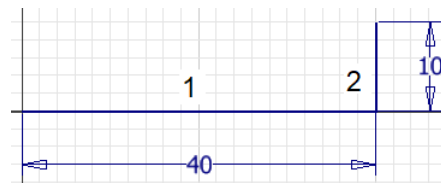

Figure 2-99(b) Dimensioning the sketch
5. Draw lines 3, 4, 5, 6, and 7, as shown in Figure 2-99(c). Make sure the lines are horizontal and vertical.